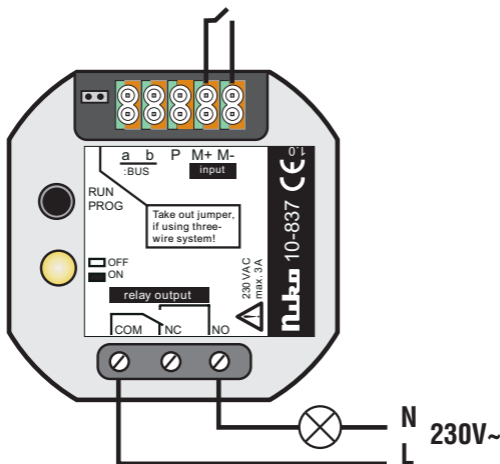

fig.6
This relay is designed for flush mounting and has 5 pairs of plug-in terminals that simplify wiring. To each terminal, 2 wires can be connected. The wire can have a diameter of max. 0,8mm. In order to insert the wire into the terminals, it must be stripped over a length of 5 to 6mm. The relay is directly connected to the bus. In case of a 2-wire connection, only a and b are connected. If over 3 relays type 10-837 are connected, a 3-wire connection is required. In this case, a, b and P must be connected and the relay jumper must be removed (fig.6). The relay 10-837 is provided with a potentialfree relay output with a 230V/3A changeover contact at the bottom. This relay output can be used as normally open (NO) or as normally closed (NC) contact. Depending on the desired operation, screw terminal COM must be combined with NC or NO. The relay is provided with an additional input (terminals M+ and M-) for connecting a push button/switch. The relay can be connected to the Nikobus home automation system via the in- and outputs (see technical catalogue Niko Access Control).